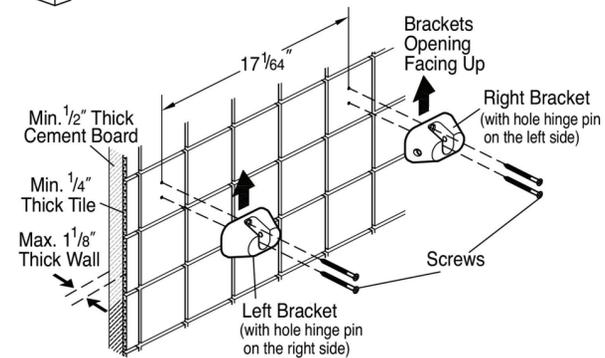

Fig. 2 Mounting Brackets to Finished Wall
6. The wall thickness (total thickness of materials not including the studs but including cement board or equal, mastic, tiles or marble...etc.) must not be more than 1 1/8" thick. A wall thickness of more than 1 1/8" may prevent the mounting screws from adequately penetrating the header. See figure 2.
10. Correctly position and mount the left and right brackets to the wall using the #12 x 3" screws provided. See figure 2 for correct positioning of both brackets. Do not over or under tighten the screws. NEVER use any other screws other than the screws provided. If the screws are missing, misplaced or damaged please call the manufacturer for free replacement screws.